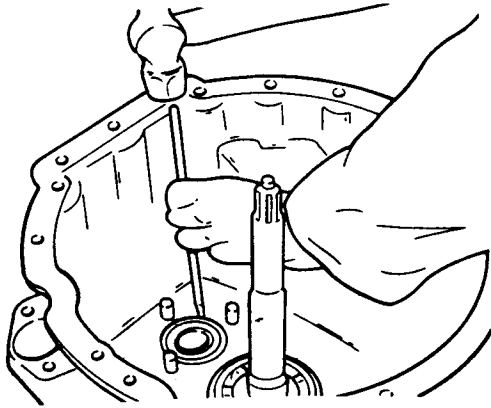

Fig H1.42
- (6) Refer to Fig H1.42. The outer track of the front bearing (1) of the primary shaft must be adjusted until there is no play (0) and at the same time check that the shaft turns with no load.